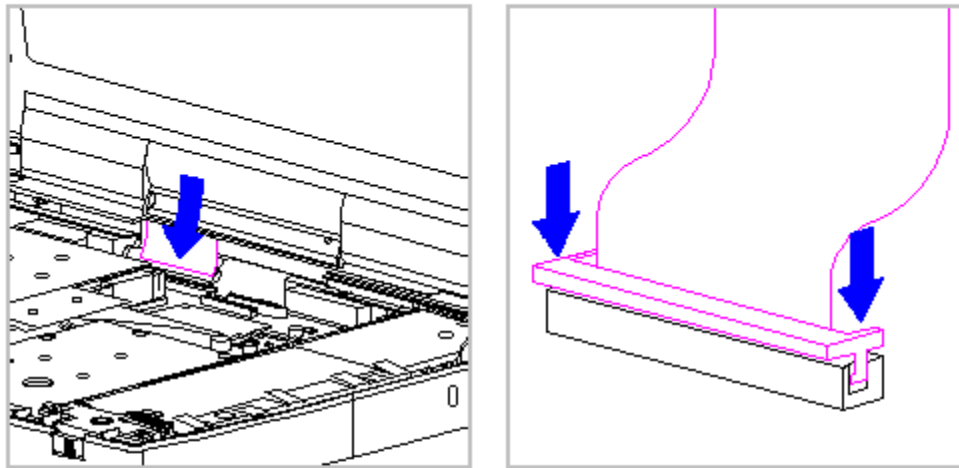

Figure 5-97. Connecting the Display Cable to the System Board - CSTN (10.4 in) Display
11. While holding the end of the display cable inside the ZIF connector slide, press down both ends of the slide simultaneously to secure the cable in the ZIF connector (Figure 5-97).